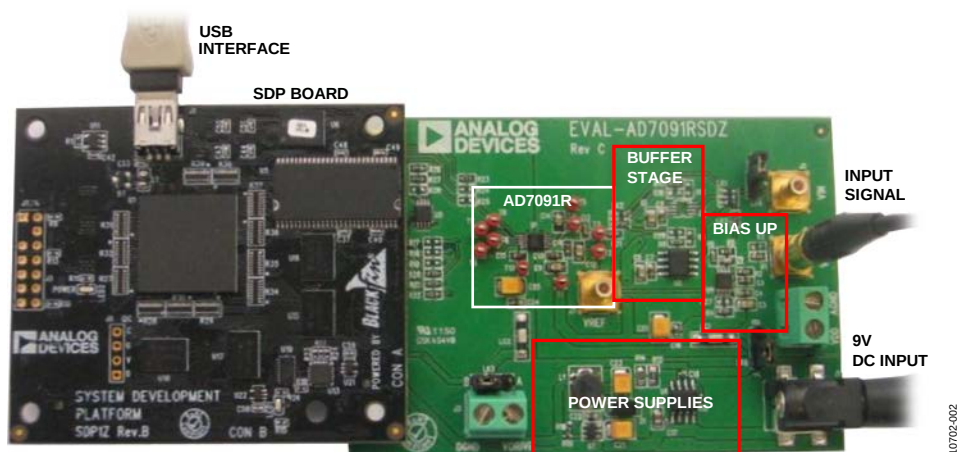

Figure 2. Hardware Configuration—Setting Up the EVAL-AD7091RSDZ
3. Connect the EVAL-SDP-CB1Z board to the EVAL-AD7091RSDZ board as shown in Figure 2.
The EVAL-AD7091RSDZ board connects to the EVAL-SDP-CB1Z system demonstration platform board. The EVAL-SDP-CB1Z board is the controller board, which is the communication link between the PC and the main evaluation board. Figure 2 shows a photograph of the connections between the EVAL-AD7091RSDZ daughter board and the EVAL-SDP-CB1Z board.